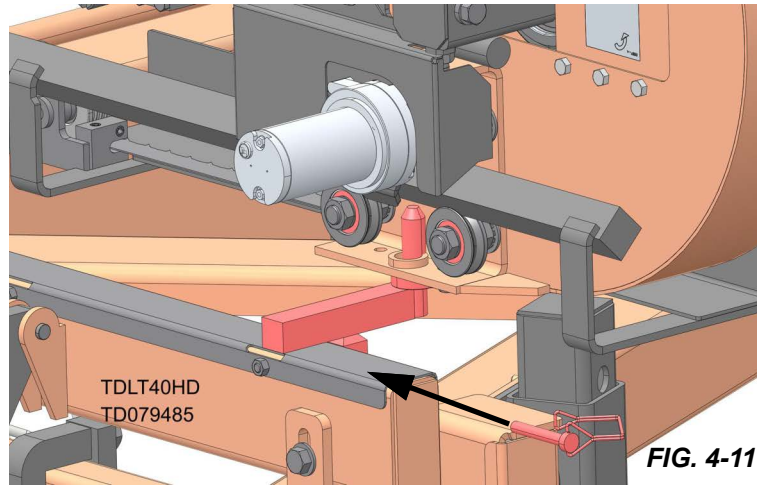

FIG. 4-11
10. Lower the saw head until it is seated firmly over the rest pin (shown in red on FIG.4-11).